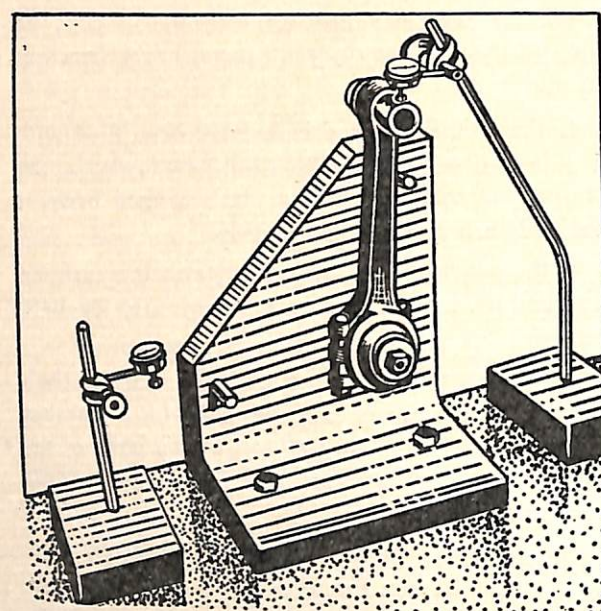

FIG. 42.
- (3) That the faces of the rod and cap are meeting squarely when the nuts are tightened.
- (4) That the gudgeon pins are in alignment with the big end bearings: this should be checked in two directions as shown in Figs. 42 and 43.